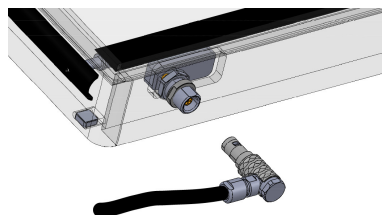

Figure 13 – Connection of the humidity sensor cable to the humidity sensor.
- Connect the other end to the humidity sensor mounted in the Heated Lid, as shown in Figure 13. Again make sure that the red dots on cable and connector line up.